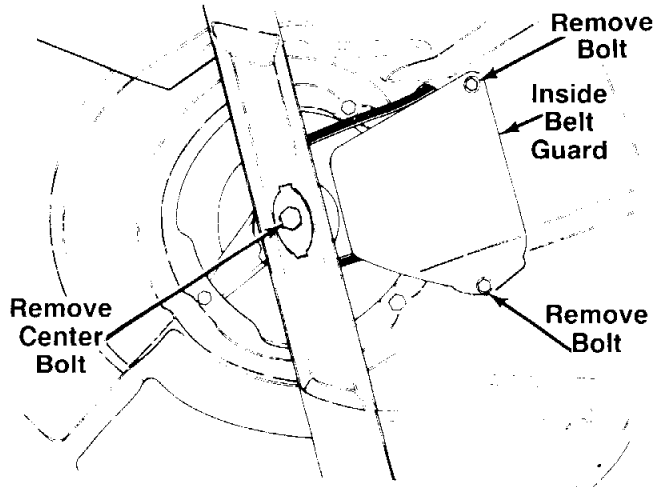

FIGURE 29.
5. Remove the center bolt which secures the blade to the crankshaft. See figure 29. Remove the blade, blade adapter and pulley half. Remove the belt.
6. Remove the inside belt guard by removing two self-tapping screws. A 3/8" wrench is required. See figure 29.